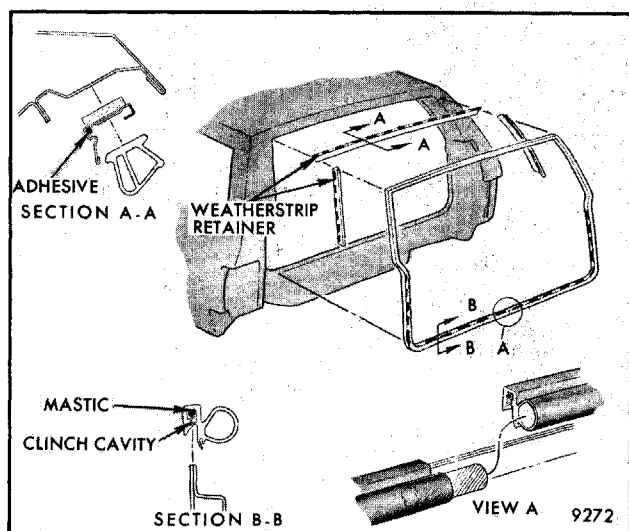

Fig. 7-131 - Tailgate Weatherstrip
TAILGATE OPENING WEATHERSTRIP (Figs. 7-131, 7-132)
4. Separate butt joint at center bottom of the opening, remove and retain plug, Figure 7-131, View "C".
2. Apply a bead of black weatherstrip adhesive cement to retainers above belt, Figure 7-131, View B, and reverse removal procedure.